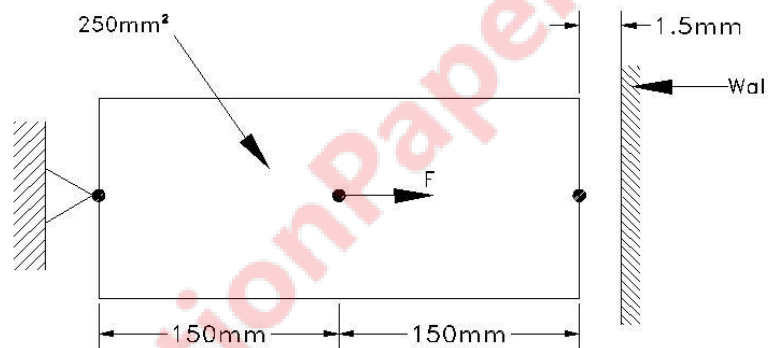

Figure 1
- (b) For a system shown in figure 1 below, determine the displacements and stresses. Assume modulus of elasticity $E = 20 \times 10^3 \text{ N/mm}^2$ and area $A = 250 \text{ mm}^2$ and $F = 60 \text{ kN}$. **07**